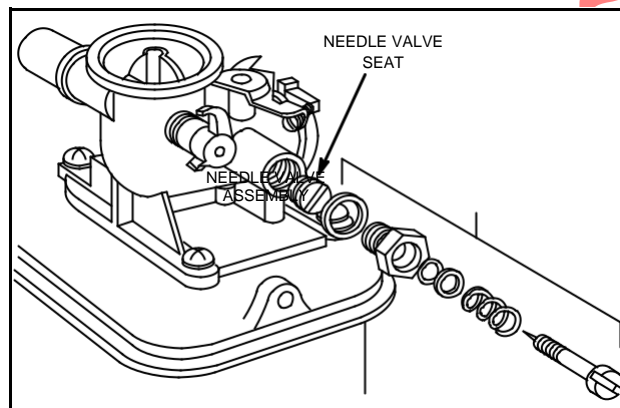

Fig. 246 - NEEDLE VALVE ASSEMBLY, SCREW-IN TYPE
2. Then install needle valve assembly, Fig. 246.